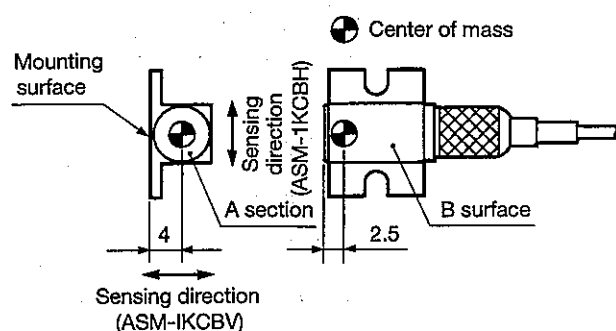

Fig.2-1
2.1 When installing the transducer, make sure of the model name and, referring to Fig.2-1 below, take care that it is installed to provide a proper sensing direction. Note: ASM-1KCBV and ASM-1KCBH models can be distinguished by the model name carved on B surface as well as the color of A section and the direction of the arrow mark on the section.